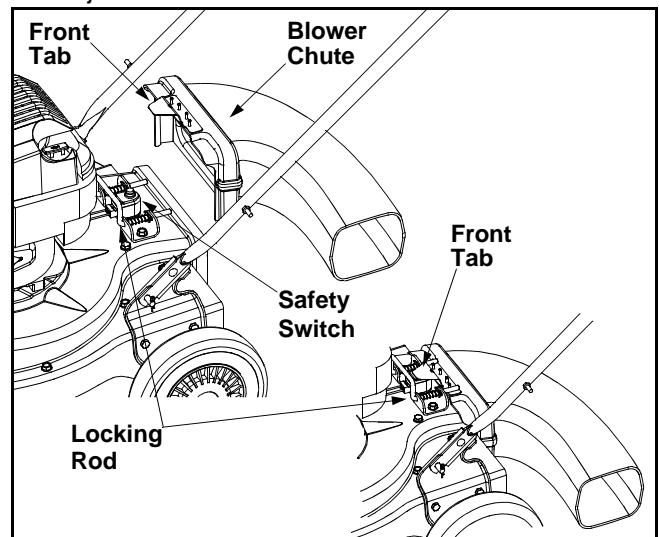

Figure 4
- Grasp blower chute with one hand and pull locking rod on mounting bracket with other hand toward engine. See Figure 4.
- Grasp blower chute with one hand and pull lock rod on mounting bracket with other hand toward engine to release. Refer to Figure 4.